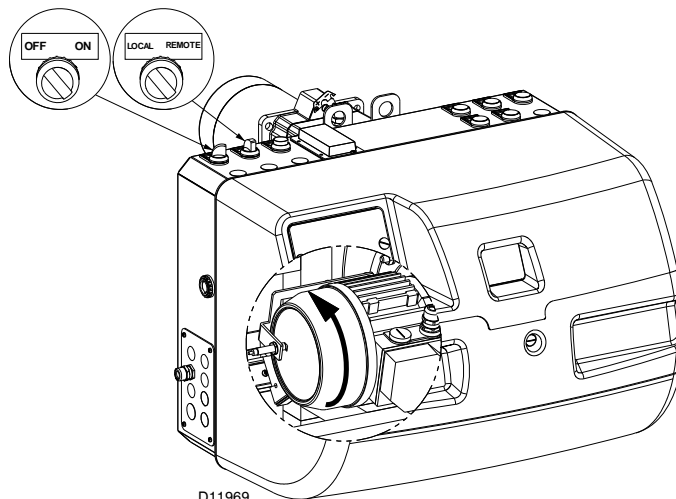

Fig. 28
Please refer to the specific manual for this operation. Turn the switch of Fig. 28 to position “ON” and turn the switch of Fig. 28 to position “LOCAL”.
Make sure that the lamps or testers connected to the solenoids, or indicator lights on the solenoids themselves, show that no voltage is present. If voltage is present, stop the burner **immediately** and check the electrical wiring. When the burner starts, check the direction of the motor rotation, as indicated in Fig. 28.
- place the switch of Fig. 28 in position “OFF” and wait for the control box to carry out the switch-off phase;